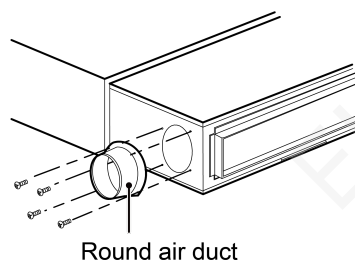

Fig.4.4.8
- (2) Install the round flange so that the fresh air duct can be connected as Fig.4.4.8.
- (3) Sealing and heat preservation should be done for both the air pipe and round flange pipe.
- (4) Fresh air should be treated via the air filter.